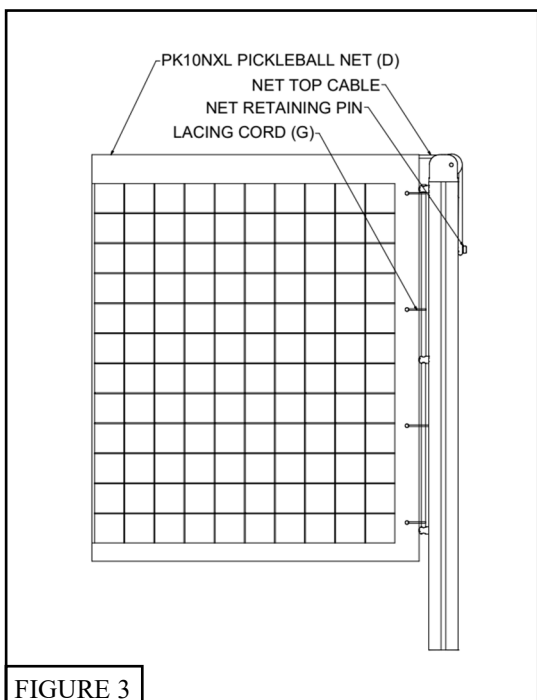

FIGURE 3
6. Hook the loop on the *PK10NXL Pickleball Net* (D) top cable around the net retaining pin on *Non-Winch Post* (B) and over the top pulley. See Figure 3.
8. Square up *PK10NXL Pickleball Net (D)* to each post, use *Lacing Cord (G)* to secure *PK10NXL Pickleball Net (D)* to the lacing bar near post. See Figure 3.
9. Install the *TN10CS Center Court Strap (E)* following the instructions found with TN10CS.